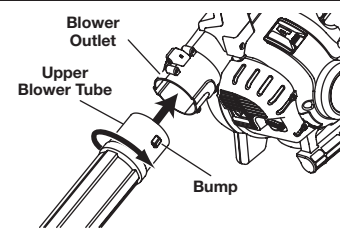

Fig. 1
- Align the bump on the end of the upper blower tube with the bump slot on the bottom end of the blower outlet (Fig. 1).
- Insert the upper blower tube into the blower outlet (Fig. 1).
- Twist the upper blower tube clockwise until it locks into place (Fig. 1).